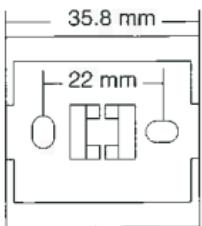

fig. 1
- wall mount with back plate (fig. 1) and terminals-cover (IP30)